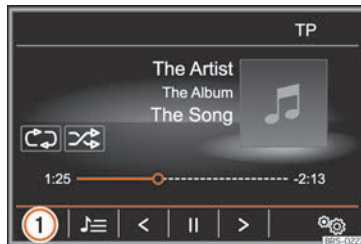

Fig. 211 MEDIA main menu.
- In the MEDIA main menu, press function button **»»» Fig. 211 ①** and select **BT audio**.